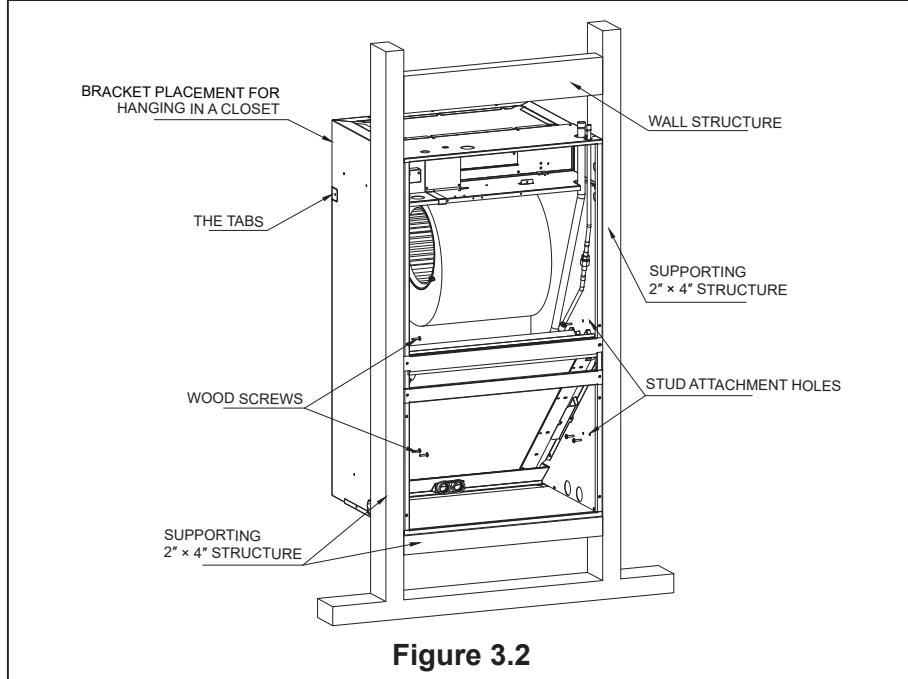
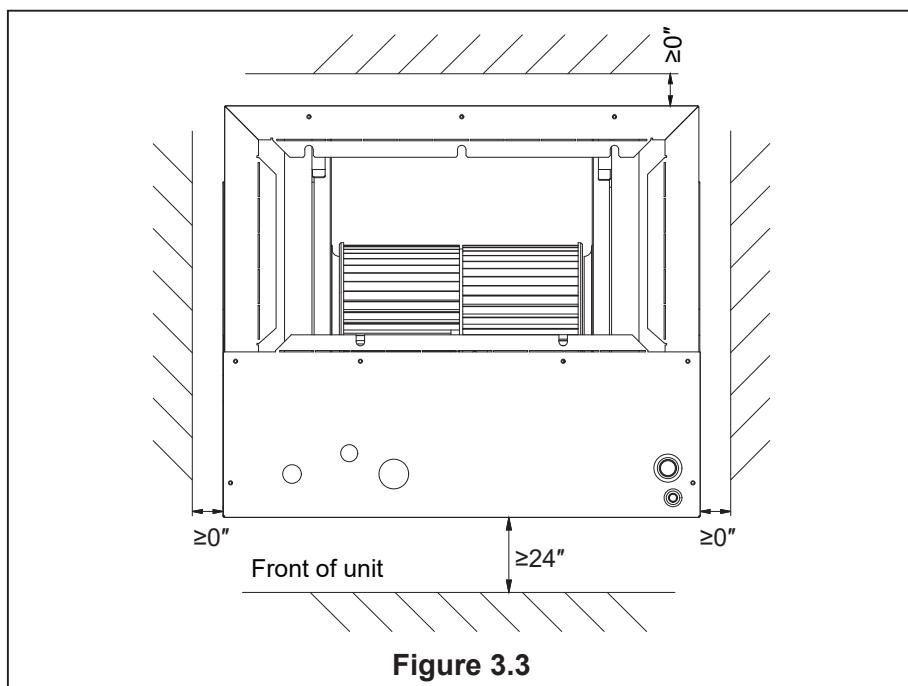

Figure 3.2
Figure 3.3
The air handler comes with 8 clearance holes (4 on each side). These holes are used to mount the air handler inside of a frame structure (see Figure 3.2). When mounting in this fashion, make sure that the wood screws are mounted from within the air handler and not outside of the unit. Install the screws from outside the unit, and avoid damaging the coil. If the frame does not provide support in the front of the unit and additional support is needed, open up the tabs and fix the unit to the frame or other support structure with screws (only for 24/30K/36K). Select a solid and level site to ensure proper installation of the frame mount. Verify that there is sufficient space for installation and maintenance. (See Figure 3.3)
#12 x 1 1/2" wood screws are recommended. When the unit is installed on a wood frame, the screws should be used to fix the unit to the studs. If they are not used, the unit may fall down or cause other damage. (See Figure 3.2) for frame mount installation.
- As shown in Figure 3.3, the installed device must have the required clearance. Failure to follow these instructions may result in equipment damage and/or premature equipment failure.